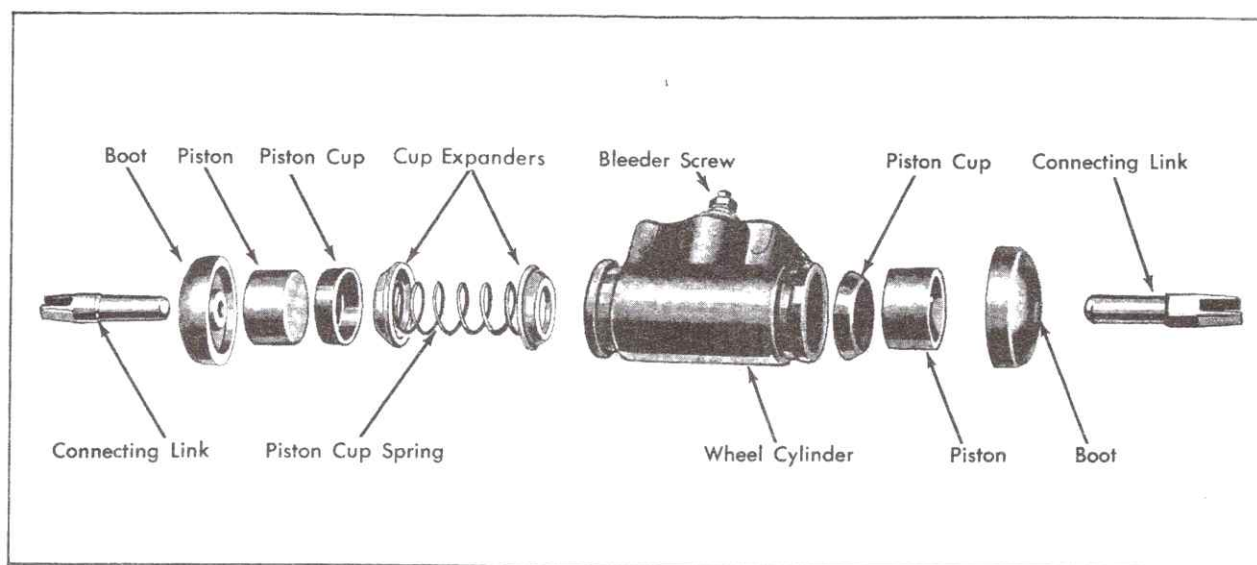

Fig. 5-7 Wheel Cylinder Disassembled
**b. Disassembly, Fig. 5-7**
**a. Assembly, Fig. 5-7**